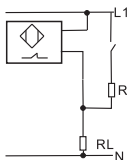

Fig. 15
6. Parallel connection of mechanical switch and AC sensor.(Fig.15)